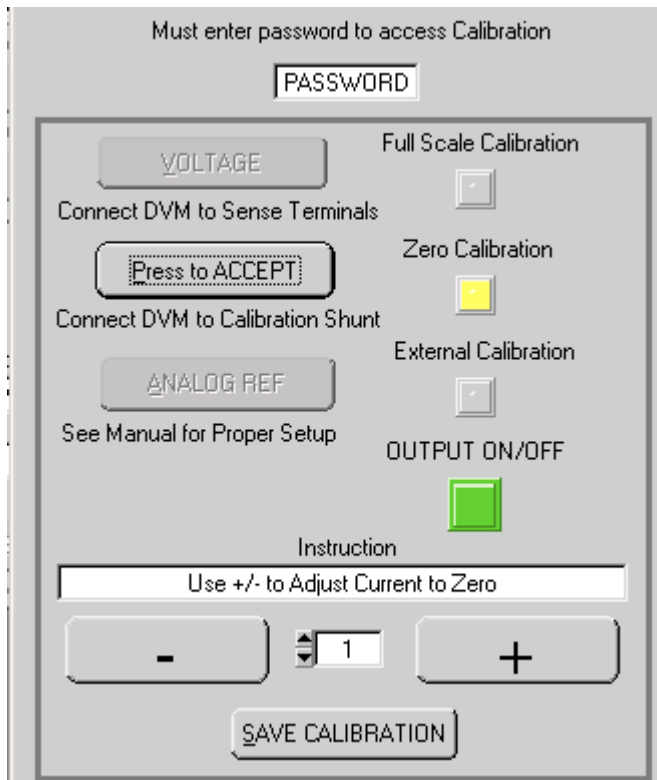

FIGURE 4-4. CURRENT CALIBRATION WINDOW
1. Click the **CURRENT** button on the Calibration Window to start current calibration; a pop-up box appears instructing the operator to connect the shunt across the output terminals. Once the shunt is connected, click OK; the Current Calibration Window (Figure 4-4) appears and the status display on the VXI main panel reads **CMAX**.